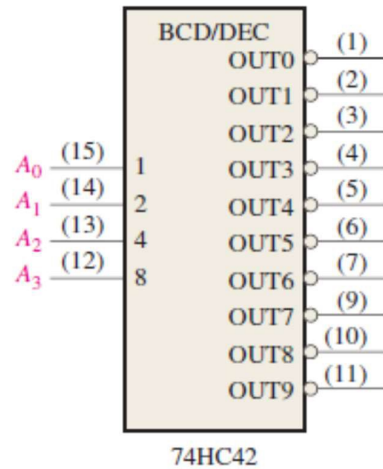

Fig 2: 74LS42 Decoder IC pin configuration
The TTL 74LS42 accepts four lines of input data and it has ten active-low outputs. The inputs must be supplied by a coder type BCD, which causes the activation of the output line corresponding to the applied number. Each output goes low only when its corresponding BCD input is applied, while all other inputs remain high. Fig 2 shows the pin-out of 74LS42 IC.
The TTL 74151 Multiplexer IC has eight data inputs multiplexers. It has three selection inputs, one enable input which is active low, and two outputs. Fig 2 shows the pin configuration of IC.
Fig .2 pin configuration of 7476 JK flip-flop with preset and clear IC
- Carry out the circuits of Fig 2 by using IC 74LS76